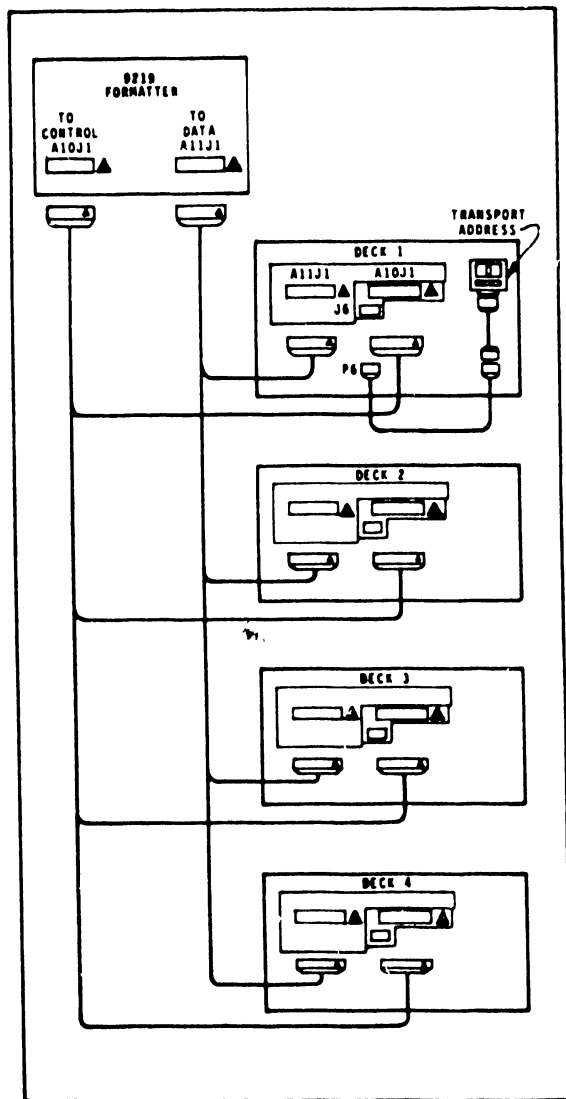

FIGURE 4-100 DAISY CHAIN CONFIGURATION
- F. If more than one tape drive is to be attached to system, use 8 ft I/O daisy cables (PN 220-3059), to interconnect the tape drive in the configuration shown in Figure 4-100.